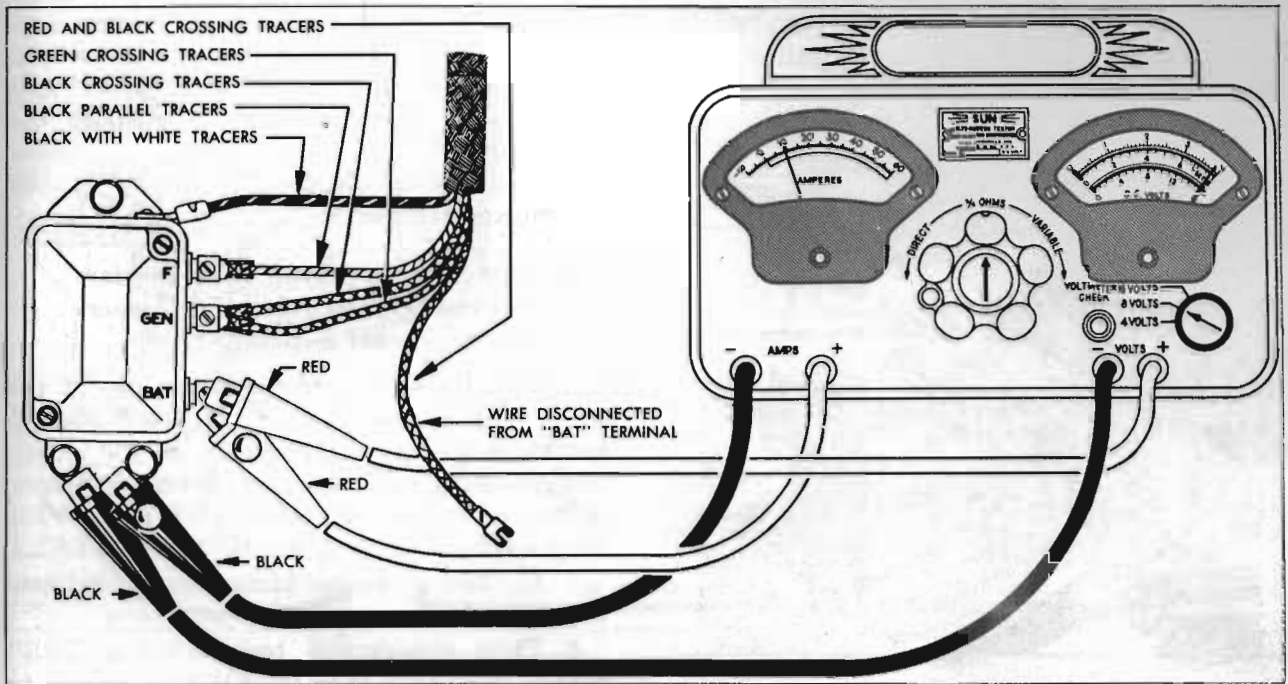

Figure 10-21—Voltage and Current Regulator Test Connections—Sun Volts Ampere Tester
14. When regulator reaches operating temperature, stop the engine. Turn tester Control Knob to the " $\frac{3}{4}$ OHMS" position. Change red voltmeter test clip from the "GEN" to the "BAT" terminal of regulator, where red ammeter test clip is already connected. Disconnect black ammeter test clip from car battery wire and connect it to good ground on regulator base plate. See figure 10-21. **CAUTION:** *Do not allow disconnected car battery wire to touch metal.*